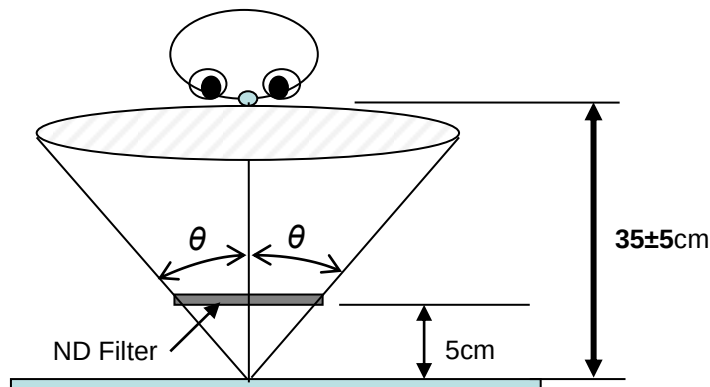

Fig. 1
- 5.3 Distance: 35±5 cm in front of LCD unit with a viewing angle of $\theta = 10^\circ$. (refer to figure 1)
ND filter use method: The inspection method of ND Filter - holding ND filter in front of the panel around 5 cm and examine the panel from **30±5** cm in the front view for **3** seconds. (Fig. 1)